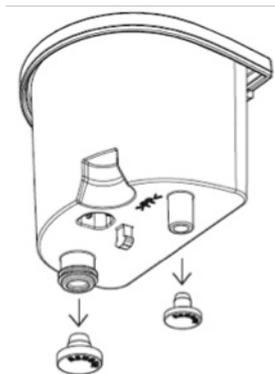

FIGURE 1
13. Do not touch the surfaces marked with this symbol during or just after ironing. The appliance will be hot! (Please refer to the following figure 1 and figure 2)
3. Remove the cover from the new anti-scale cartridge (Figure 1).